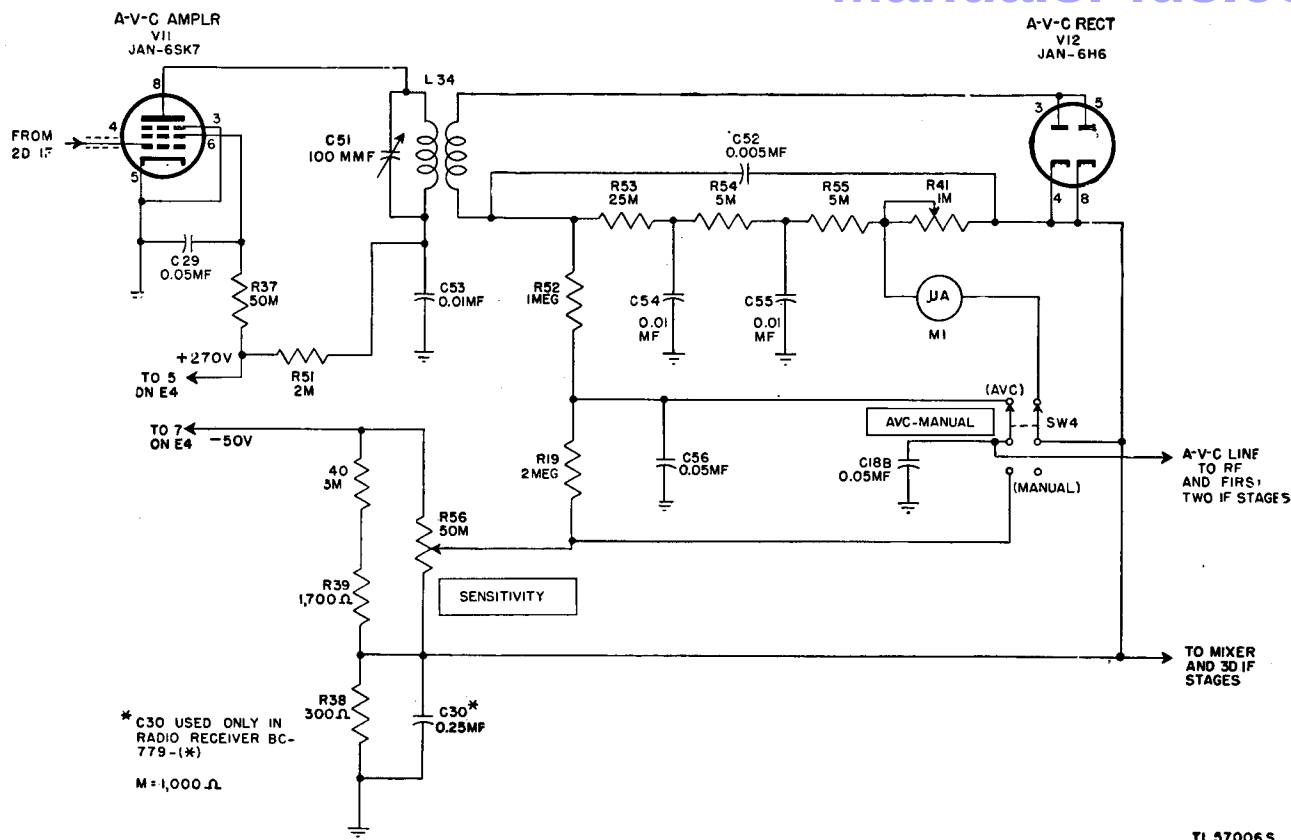

Figure 31. Radio Receiver BC-779-B, functional diagram of a-v-c stages.
a. *MIXER TUBE JAN-6L7.* For simplicity, capacitor C71, main tuning ganged capacitor C1C, and band spread ganged capacitor C2C are represented as a single variable capacitor C across the inductance trimmed secondary of r-f transformer L18. Signal voltages across C are applied through 600-mmF capacitor C11 to signal grid G1 (top cap) of pentagrid mixer Tube JAN-6L7. Fixed bias from the voltage divider (fig. 31) is applied through a filter circuit (10,000-ohm resistor R10 and 0.01-mf capacitor C12) and 500,000-ohm grid resistor R9 to the signal grid. Screen grid G2 and G4 (pin 4) forms a screen about injection grid G3 (pin 5), and the h-f oscillator output is coupled through 95-mmF capacitor C13 to the injection grid. Since the screen grid shields the signal and injection grids from one another, the tube electron stream is modulated independently by the r-f and oscillator signals. Heterodyne action produces sum and difference frequencies in the mixer output. The primary of transformer T1 is tuned by C21 to the 465-kc difference frequency to which the i-f amplifier is also tuned. The i-f voltage across the secondary winding of transformer T1 is applied to the crystal filter.
65. A-V-C Circuit (fig. 31)
and to the control grid (pin 4) of the a-v-c amplifier stage V11 (fig. 31). V7 and V11 have a common grid circuit, including fixed bias. The suppressor and cathode of V11 are grounded; screen voltage is applied to pin 6 through 50,000-ohm series-dropping resistor R37; and the screen is bypassed by 0.05-mf capacitor C29. Plate (pin 8) voltage is applied through 2,000-ohm filter resistor R51 and the primary of transformer L34. The primary of L34 is tuned to 465 kc by 100-mmf capacitor C51, and capacitor C53 (0.01-mf) bypasses high frequencies to ground. The transformer secondary is untuned.